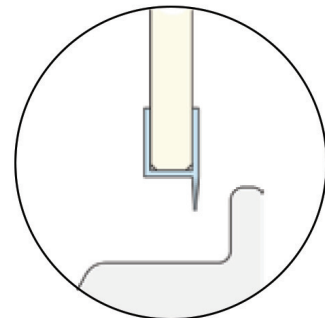

FIG 16.
- Lipped edge of less than 12mm, trim door seal fin then install (FIG 16).